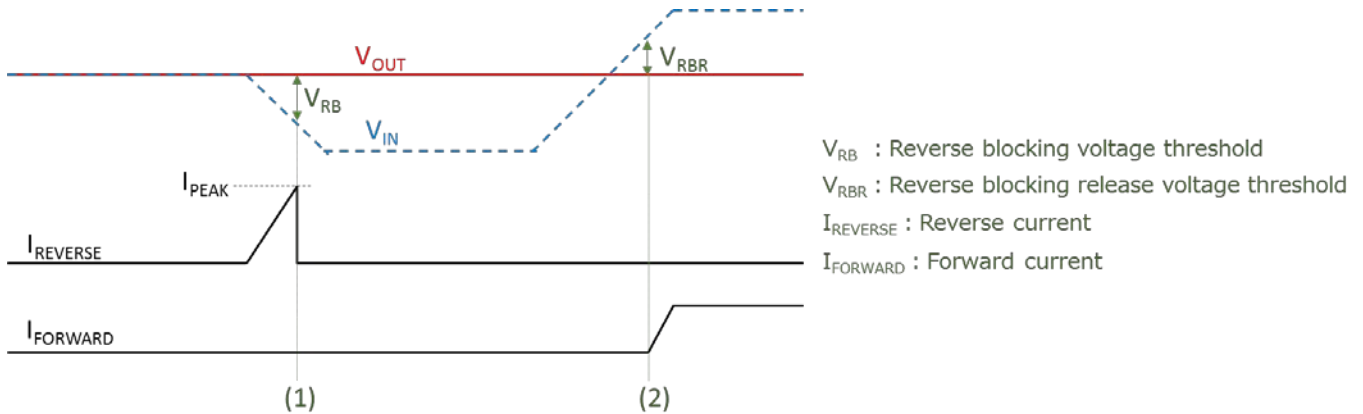

Fig. 3.5.1 Operation Image of True Reverse Current Blocking
However, the function of the load switch IC to prevent reverse current from the output terminal to the input terminal is also available regardless of the ON/OFF of the load switch IC. This function is called a true reverse current blocking function. The load-switch IC with the true reverse current blocking function compares the input voltage ( $V_{IN}$ ) with the output voltage ( $V_{OUT}$ ) in the IC, and the backflow prevention circuit works when  $V_{OUT} > V_{IN}$ . Fig. 3.5.1 shows the operation of the true reverse current blocking in detail. When  $V_{OUT} > V_{IN}$ , the reverse current ( $I_{REVERSE}$ ) starts to flow. However, care must be taken to prevent  $I_{REVERSE}$  when the difference between  $V_{OUT}$  and  $V_{IN}$  becomes the reverse current blocking operating voltage ( $V_{RB}$ ), as shown in (1) of Fig. 3.5.1. In addition, when  $V_{IN}$  is raised again while the backflow prevention circuit is operating, and  $V_{IN}$  becomes larger than  $V_{OUT}$  by the reverse current blocking return voltage ( $V_{RBR}$ ) as shown in (2), the backflow prevention circuit stops operating and the forward current ( $I_{FORWARD}$ ) begins to flow. The maximum-value  $I_{PEAK}$  of the reverse current can be calculated by the following equation.